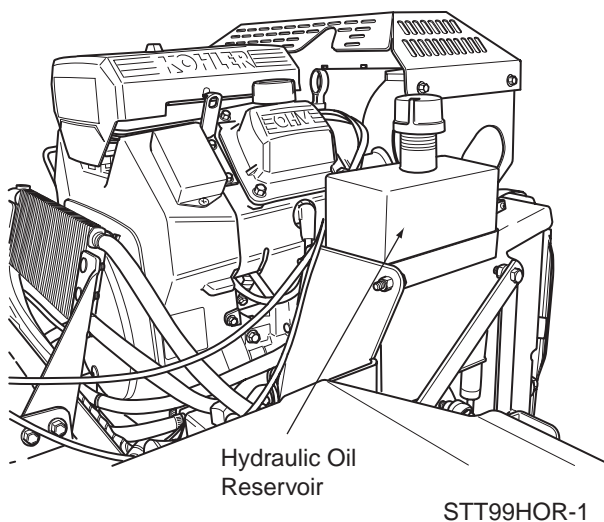

Figure 7-2 Hydraulic Oil Reservoir
2. Place a suitable container under the hydraulic oil filter. Remove the fill cap from the reservoir. Remove the drain plug from the fitting on the oil filter base. (See Figure 7-2). Allow the fluid to drain into the container and properly discard it.